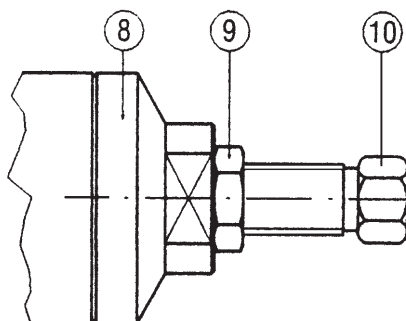

Fig. 19
- 4) Aumentare completamente la taratura del pilota 3 ruotando la vite 10 in senso orario (fig. 19).
- 5) Chiudere la valvola AR 73 (2) in posizione 0.
- 4) *Completely increase the setting of the pilot 3 by turning the screw 10 clockwise (fig. 19).*
- 18) *Adjust the setting by alternately adjusting the AR73 valve and the 30./... pilot so that the value of the set pressure is obtained with the minimum opening possible of the AR73 valve; then block the screw 10 of the pilot with the provided nut 9 (fig. 19).*
della valvola AR73; bloccare quindi la vite 10 del pilota con l'apposito dado 9 (fig. 19).